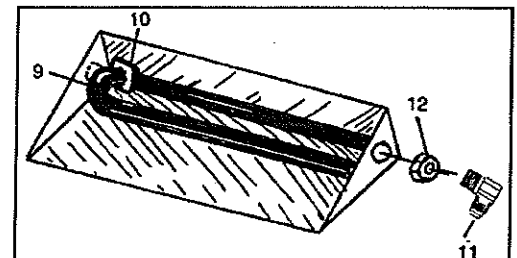

Figure 6 - Burner bar connection
- D. Secure the intake end of the Dual burner bar (Part #9) to the burner pan (Part #8) through the knockout hole selected (right or left hand) with the 3/8" brass orifice elbow (Part #11) and 3/8" locknut previously assembled in Step B (See Figure 6).